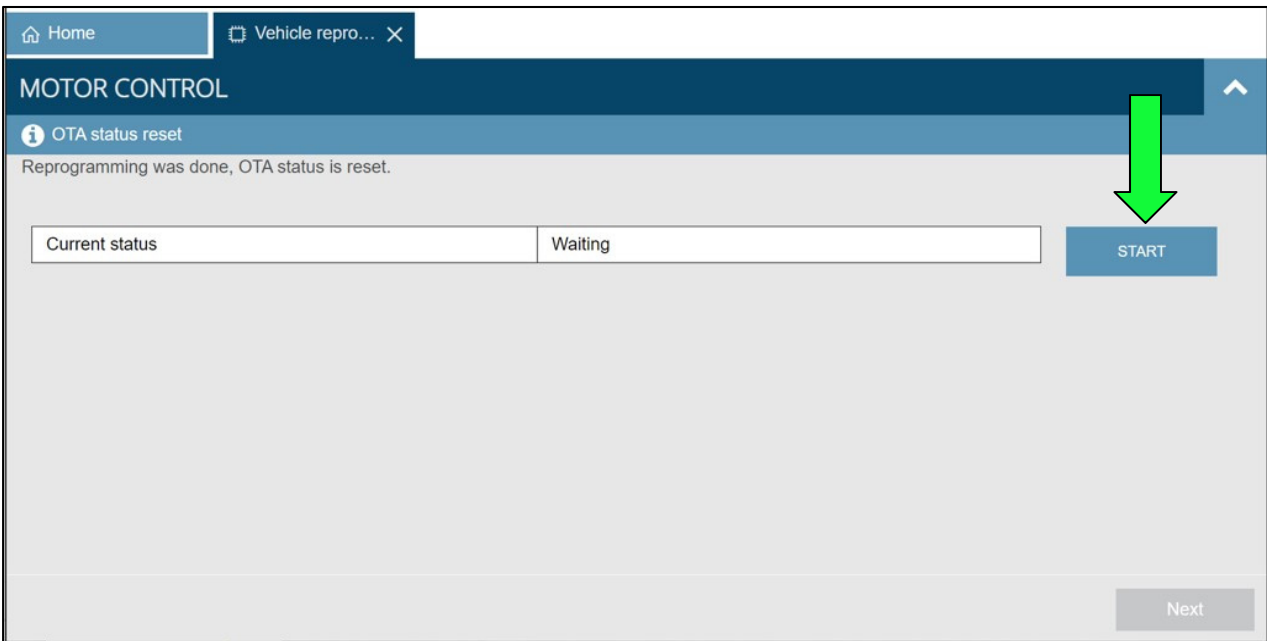

Figure 17
23. Once the screen in Figure 17 is displayed, select **START**.